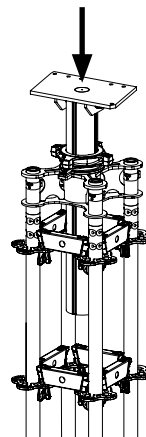

Fig. A5.11b
2. Spindle off the head spindle. (Fig. A5.11b)